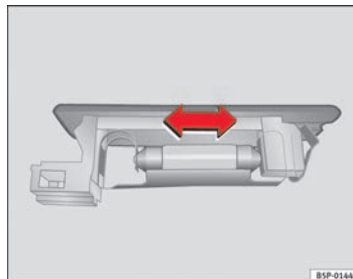

Fig. 158 Luggage compartment light
- Press the bulb sideways and remove it from its housing ⇒ fig. 158. ■